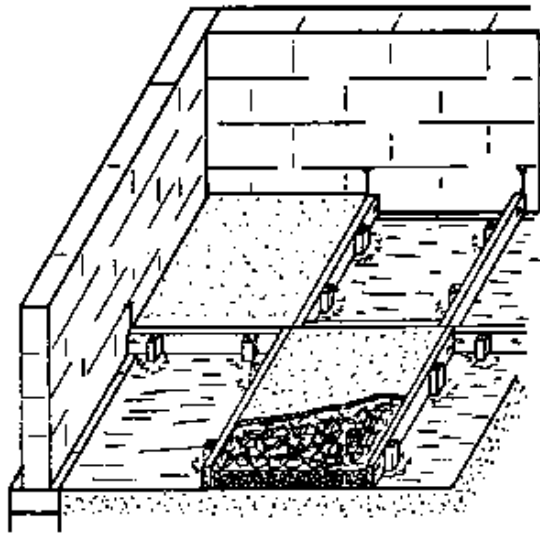

Fig. 2
n. Tamp the screed down with a strike board until a level surface is obtained (Fig. 2).